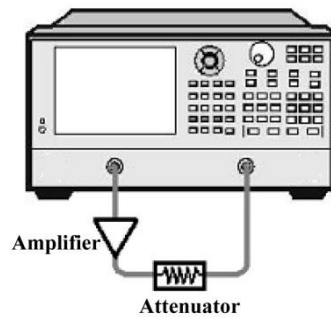

Fig. 8.16 Connection in Group Delay Measurement
- 2) Connect the DUT, as shown in Fig. 8.16.